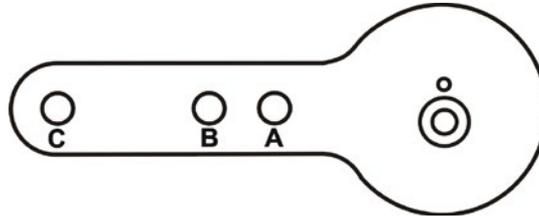

Figure 24 - Lever for Model 87/88 Multispring Actuator
3. Select mounting hole A, B, C or D for the stroke of the valve. For example, hole B is shown in Figure 24 on page 56 for a size 10 actuator with 1.0" stroke. Unless otherwise specified, the SVI FF mounting assumes that the actuator is in the normal upright position. The mounting hole in the slotted opening of the mounting bracket must be left when facing the actuator, with the actuator in the upright position.
6. Attach the right hand threaded rod end to the SVI FF lever using a 1/4 - 20 x 1" cap screw and nut as shown. The lever hole position to be used depends upon the specific valve stroke. Refer to Figure 24 on page 56 and the Reciprocating Valve Linkage Selection, Table 7 on page 57.